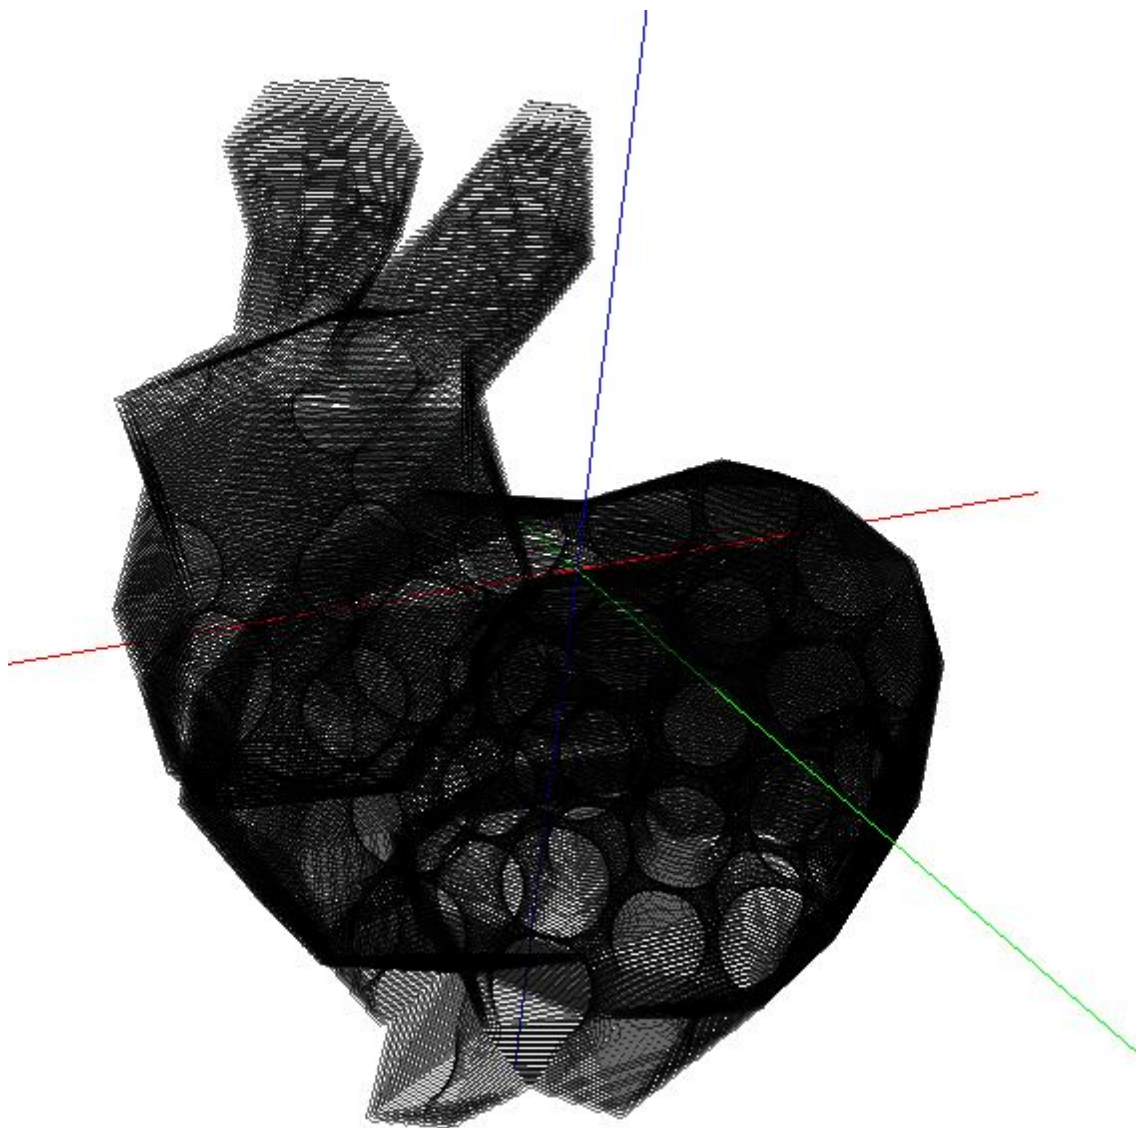
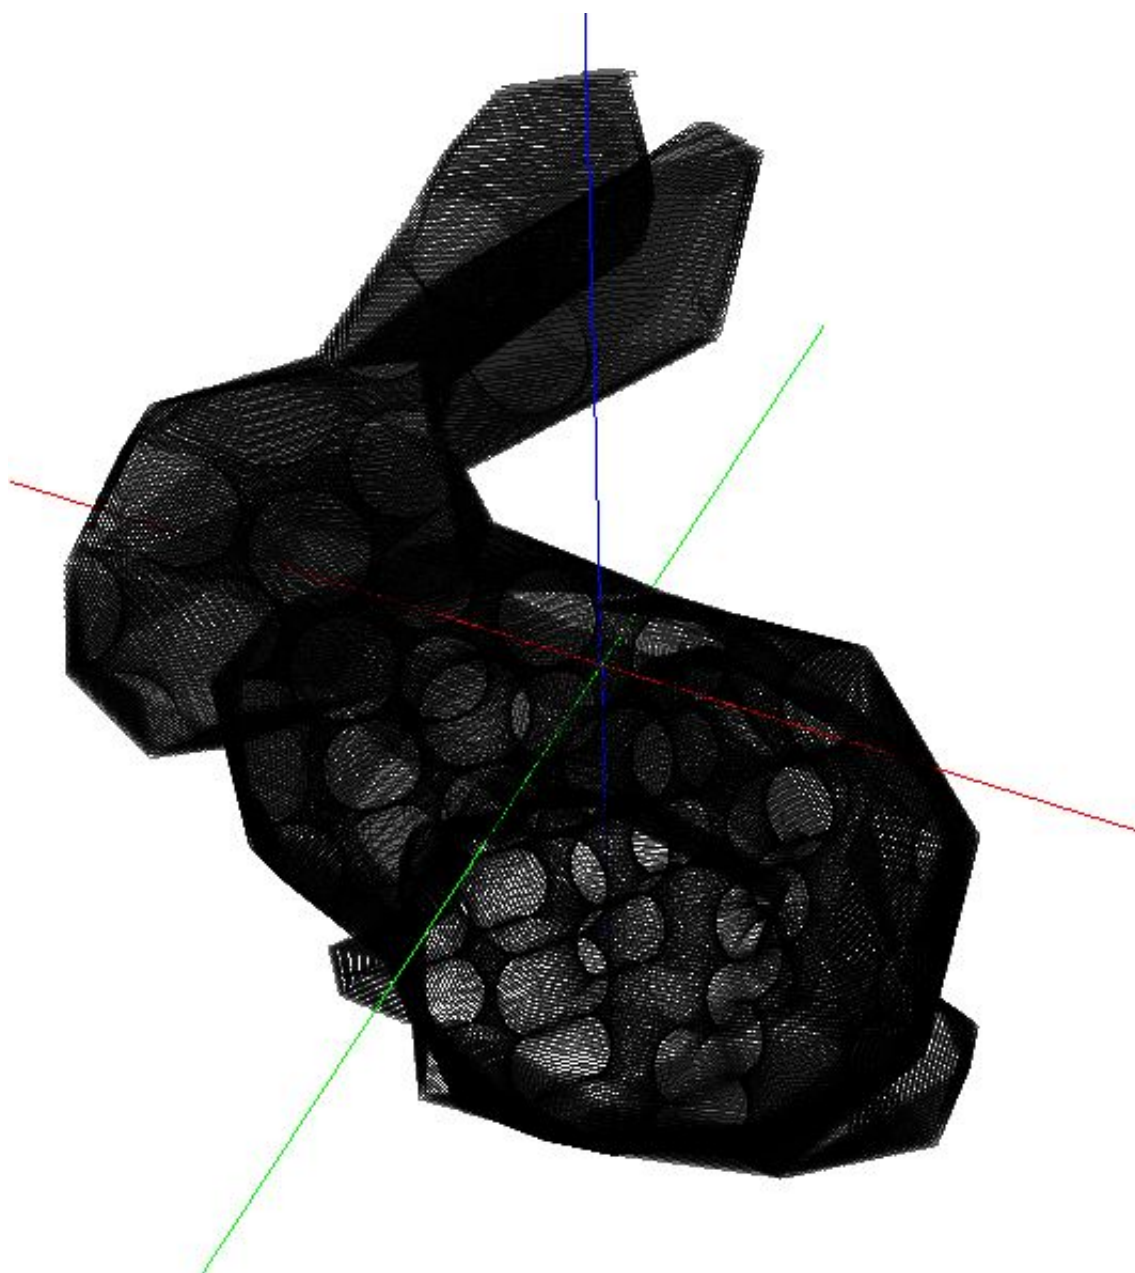

Figure 10: G-Code visualization of *bunny.stl*
Figure 11: G-Code visualization of *bunny.stl* 2
- G-Code visualization of *bunny.stl* with layer thickness is 0.5 mm with *TPMS* structure of diamond is given in the Figure 10. and Figure 11. I obtained the G-Code visualisation with 0.5 mm layer thickness since with 0.1 mm layer thickness inside of the bunny was not visible.